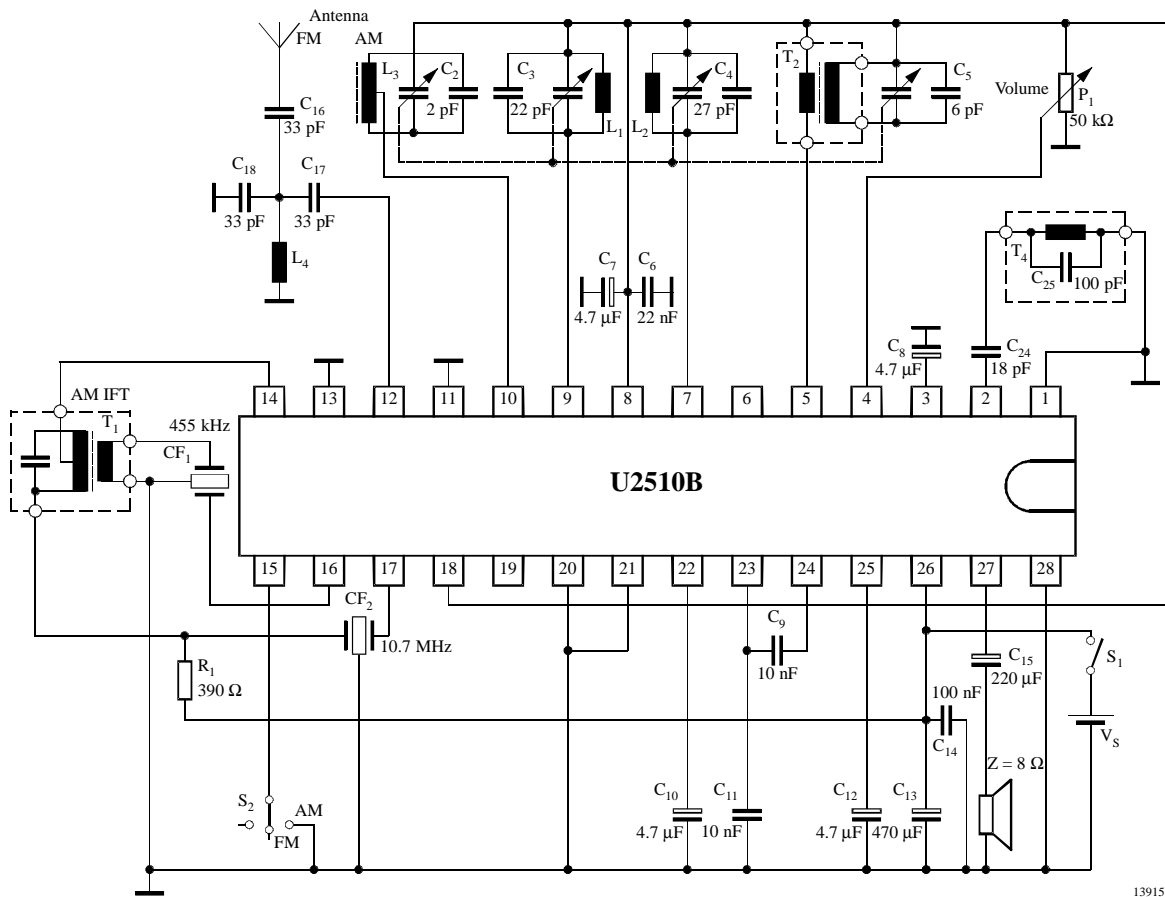
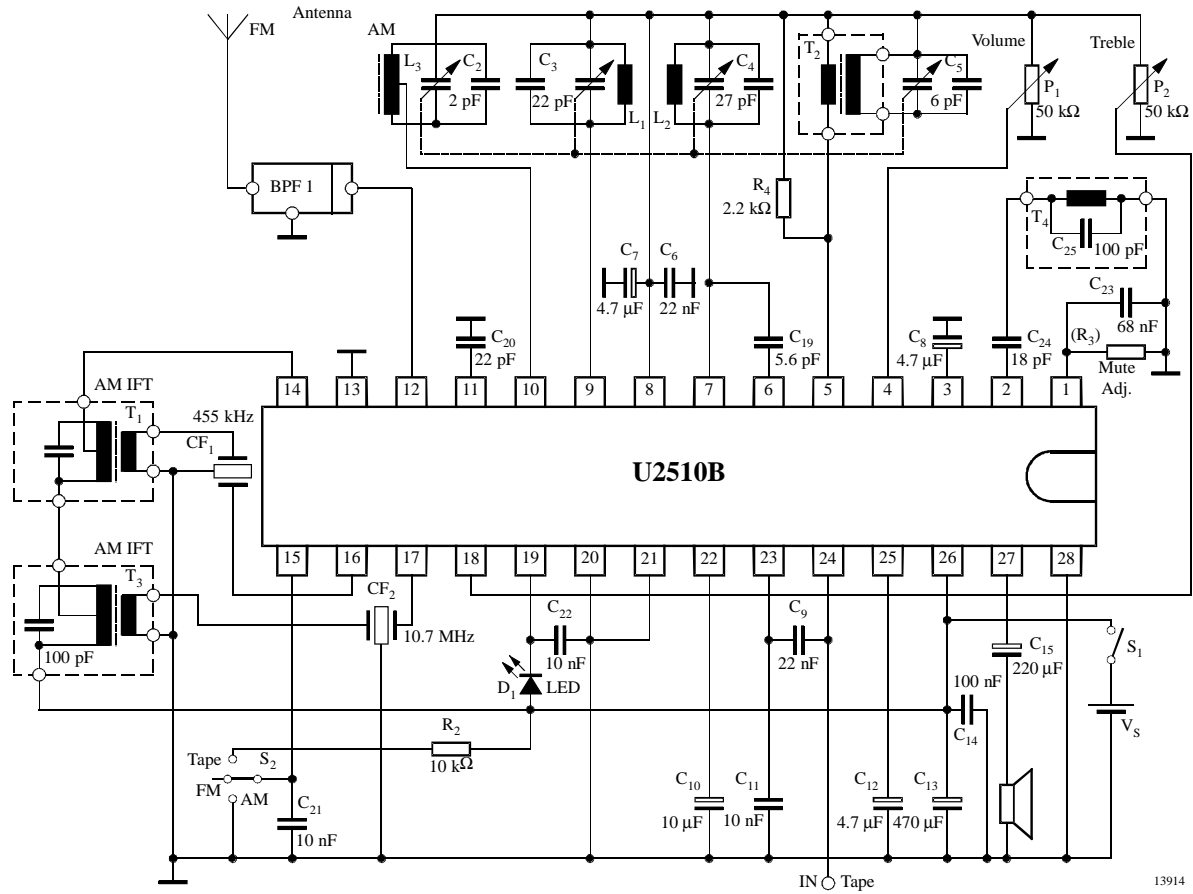
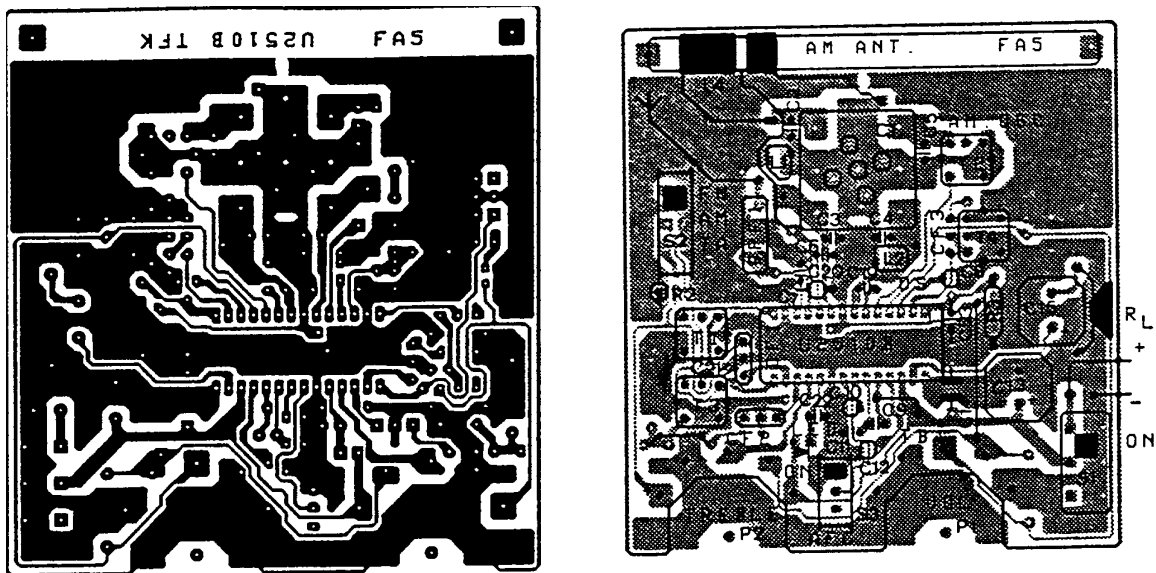

Figure 17. Application circuit (low cost)
Figure 18. Application circuit (upgraded) R₂ only if V_S > 8 V
Figure 19. PC-board
Figure 17 shows a circuit diagram for low end AM/AF radios using the U2510B. Figure 18 shows a circuit diagram of AM/AF radio for higher class designs using all possible options of the U2510B. The layout of the PC board, shown in figure 19, is suitable for both the circuit example shown in figure 17 and the circuit example shown in figure 18. The associated coil, varicon and filter specifications are listed in the table: COIL DATA and SPECIAL COMPONENT PARTS. The circuit diagram (figure 18), has the following options compared to the circuit diagram (figure 17) (the additional parts, which have to be provided, are listed in parentheses):
Option e) improves the tuning behavior substantially. The special design of the on-chip AFC function means that common disadvantages such as asymmetrical slope, (chip-) temperature effects and unlimited holding range are avoided. As mentioned in the "Pinning Description Table", the AFC slope has to be inverted when the local oscillator (LO) frequency has to be below the receiving frequency. This can be achieved by connecting Pin 21 to the potential of Pin 8. In addition to the options described above, the following proposals are implemented in the circuit diagram (figure 18), too:
As shown in the application circuit diagrams (figures 17 and 18), in FM mode ceramic filter devices are used for channel selection (CF_2) while for FM, demodulation in LC-discriminator circuit (T_4 , C_{24} , C_{25}) is used instead of a ceramic discriminator device.